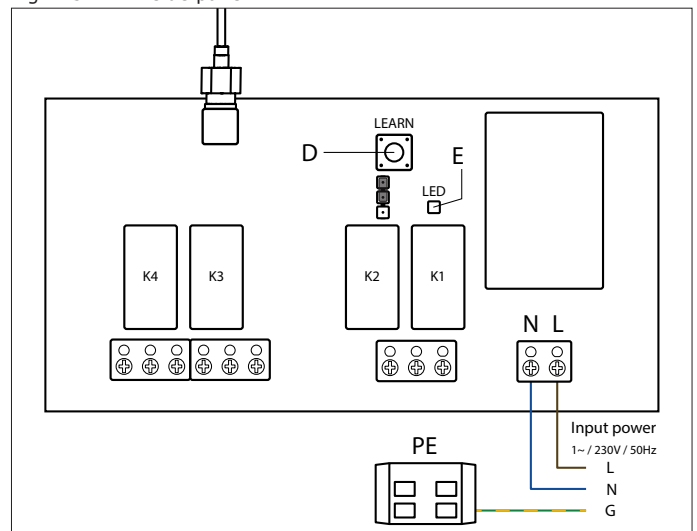

Fig. 4.4 MHR power and receiver PCB
- Open the MHR side panel (C) using the included square key.
- Power the MHR motor and wireless receiver by wiring 1-phase/230V/50Hz input power to the PCB as seen in figure 4.4.
- Close the MHR side panel (C) by pushing it closed and turning the square key.
By default buttons 1 and \blacktriangle are paired to relay 1 (K1, fig. 4.4), buttons 2 and \blacktriangledown to relay 2 (K2, fig. 4.4).
Refer to figure 4.4.
To pair a remote control transmitter follow the steps and refer to figure 4.4.